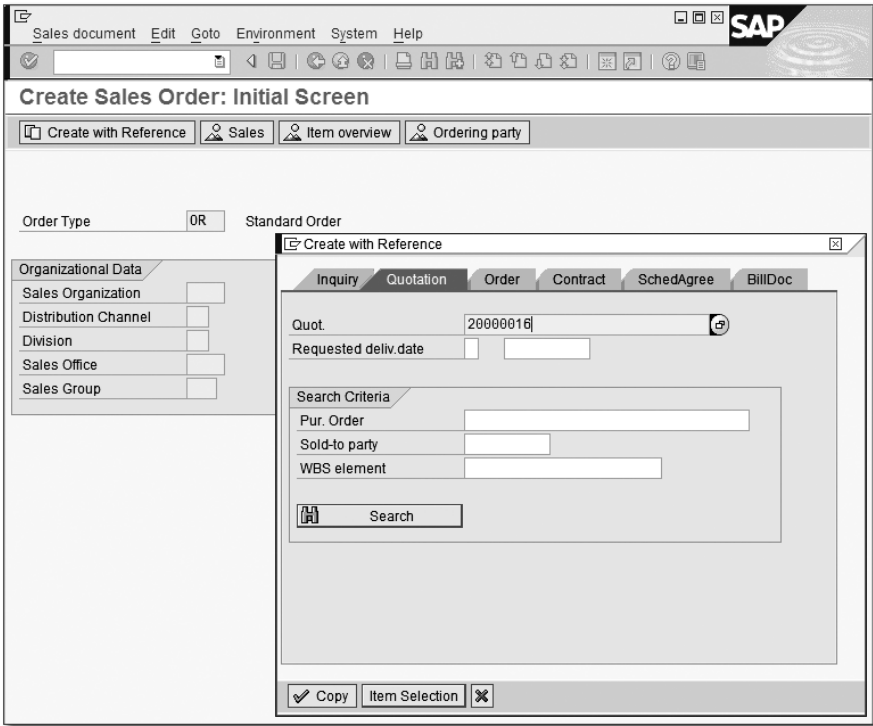

Figure 3.10 Create Sale Order with Reference Initial Screen
2. On the pop-up window, you have to specify the source quotation document number (see Figure 3.10). If you used alternative items (for example, in your source quotation), we suggest you click the ITEM SELECTION button to check which item(s) you'll be using in your sales order. If you don't plan on making any item selections, simply click the COPY button to continue.